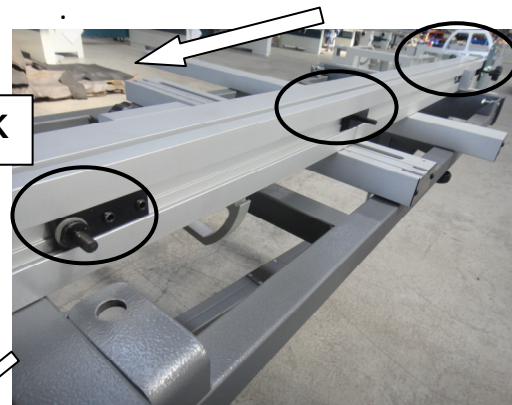

Figure3-4.
5. Lock knob **Y&Z**(Fig. 3-4.c)for fixing